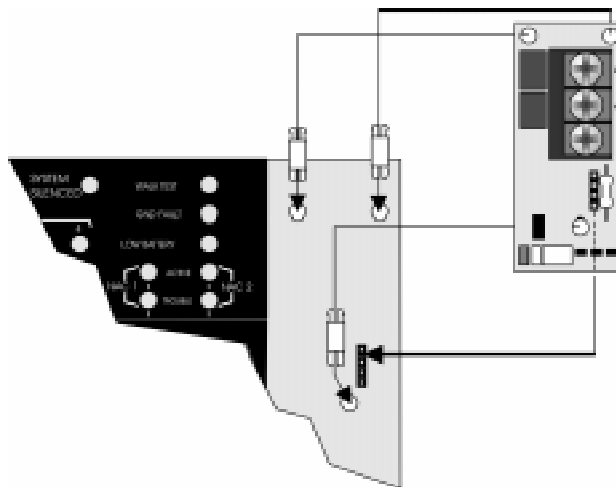

Figure 4-10 SK-2884 Connector and Stand-off alignment
3. Plug the SK-2884 Serial board on SK-4224 control panel by aligning the 4-pin connector and the three stand-offs with their respective receptors. See Figure 4-10.